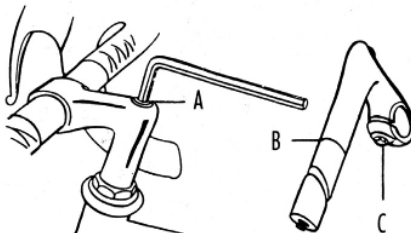

Fig. 1
4.3 - 1: Adjusting a quill stem (fig.1)
- ▶ Loosen the screw of the expander (A) 2 turns counter clockwise using an Allen key.